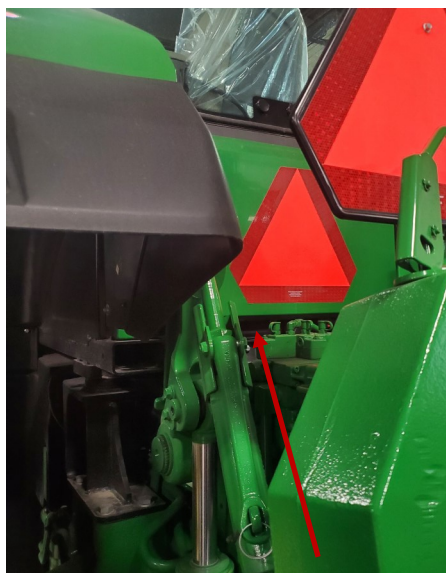

Figure 7-41:
3. Plug the harnesses into the back of the tractor. On 8R series tractors the connector is behind the cover on the back side of the cab. See Figure 7-41—7-43. It is a 10 pin rectangular connector and usually has a white cap for storage.